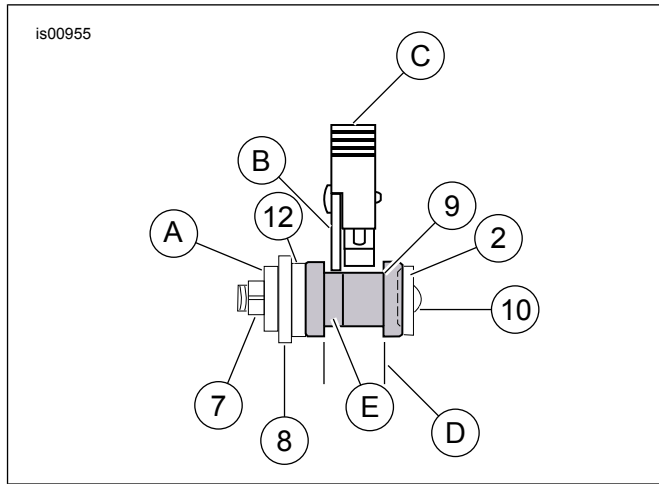

Figure 3. Proper Alignment of Latch in Right-Side Docking Point (Viewed from Rear)
9. See the Service Parts illustration and Figure 3. Fasten docking points (9) and spacers (12) to the mounting brackets as shown, on each side of the motorcycle, using buttonhead screws (10), washers (2), and locknuts (7). Leave the locknuts slightly loose for docking-point adjustment in step 10.
- Replace the eight chrome washers (2), between the mounting brackets and fender supports, with the rear-docking bracket from the Rear Docking Kit as shown in Figure 3. Replace spacers, part number 53747-97 from kit 53746-97A, with the spacers (5) from this kit. Spacers in this kit are narrower to accommodate the added thickness of the mounting bracket (8). Refer to the instruction sheet for kit 53746-97A to correctly install the docking points.